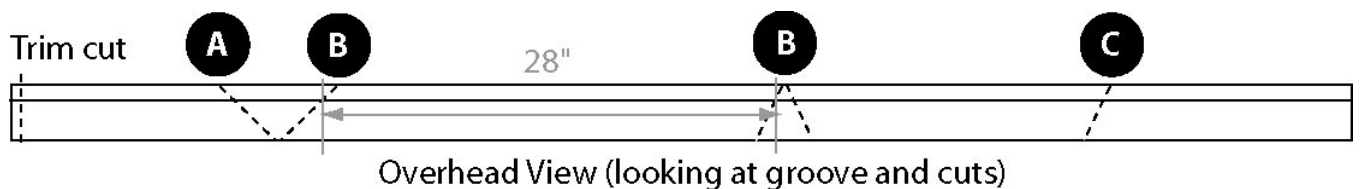

Fig. 10
Are the start and end cuts the correct angle? If not, make a rough mark with your pencil on the back of the molding which way your next cut should go. Here is an example (Fig. 10) of how one 8 foot length of molding can be cut to make the molding pieces for Fig. 8, working from left to right:
6. In this example, we have designated the "B" angle cut at half of "A": 22.5°. For purposes of example, the distance from corner "A" to corner "B" is 28". Be sure you measure and mark this distance **in the groove** of the molding, as shown in Fig. 10. Remember when aligning your molding against the saw blade that the key point of the measurements is where the blade crosses your mark **in the groove**. (See Fig. 10; the blade will pass through this mark on either side of the angle cut.)
7. Change the saw preset angle to 22.5° , as in the second "B" marking in Fig. 10. Check your blade alignment to the mark in the groove. Make your cut.